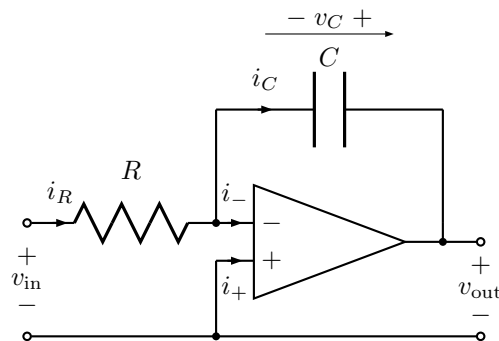
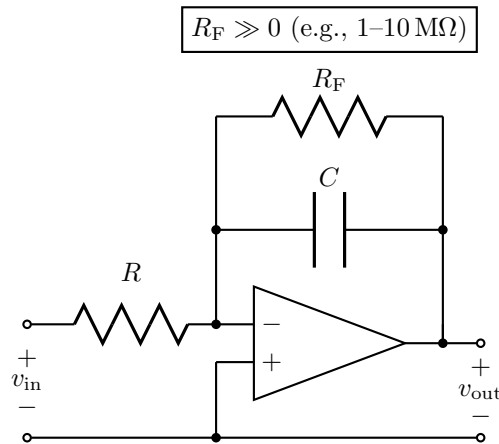
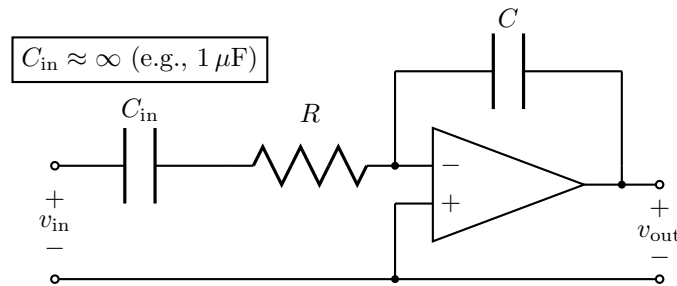

Figure 1.1: Integrator.
Figure 2.1: Integrator with Finite DC Gain (i.e., “Miller integrator”).
Figure 2.2: Integrator with Capacitively-Coupled Input.
Figure 1.1 shows a simple operational amplifier (OA) integrator.
The problem may be viewed as the capacitor configuring the operational amplifier for infinite DC gain. By placing a resistor in parallel with the feedback capacitor, we can provide finite DC gain, as shown in Figure 2.1. Now, instead of the input offset potential resulting in a ramp, it results in a constant output
Alternatively, because our input signal has no DC offset, we can capacitively (i.e., AC) couple the input to the integrator, as shown in Figure 2.2. To prevent filtering out signals of interest, C_{in} must be large. Large
1. Use the “Miller integrator” approach for finite DC feedback, shown in Figure 2.1, to produce an integrator with constant output offset.
Additional offsets: Even balanced OAs produce integrator offsets. For a trimmed OA, the impedance (to ground) looking *out* of the inputs must be *equivalent*. Rather than connecting the non-inverting input (i.e., the $+$ input) directly to ground, use a resistor equal to the impedance seen by the inverting input (i.e., the $-$ input). For example, use R for Figure 1.1, $R||R_F$ for Figure 2.1, and a large resistor for Figure 2.2. In all cases, use a variable resistor (e.g., two adjacent pins of a potentiometer) so that it can be tuned.
Being careful: While this method should allow you to use the ideal integrator of Figure 1.1, for safety, you should probably *also* use one of the other constant-offset methods (i.e., the finite DC feedback method or the capacitive coupling method) described above. Together, your integrator will be near ideal and have very little offset. Of course, you may need to retune your potentiometer(s) periodically.